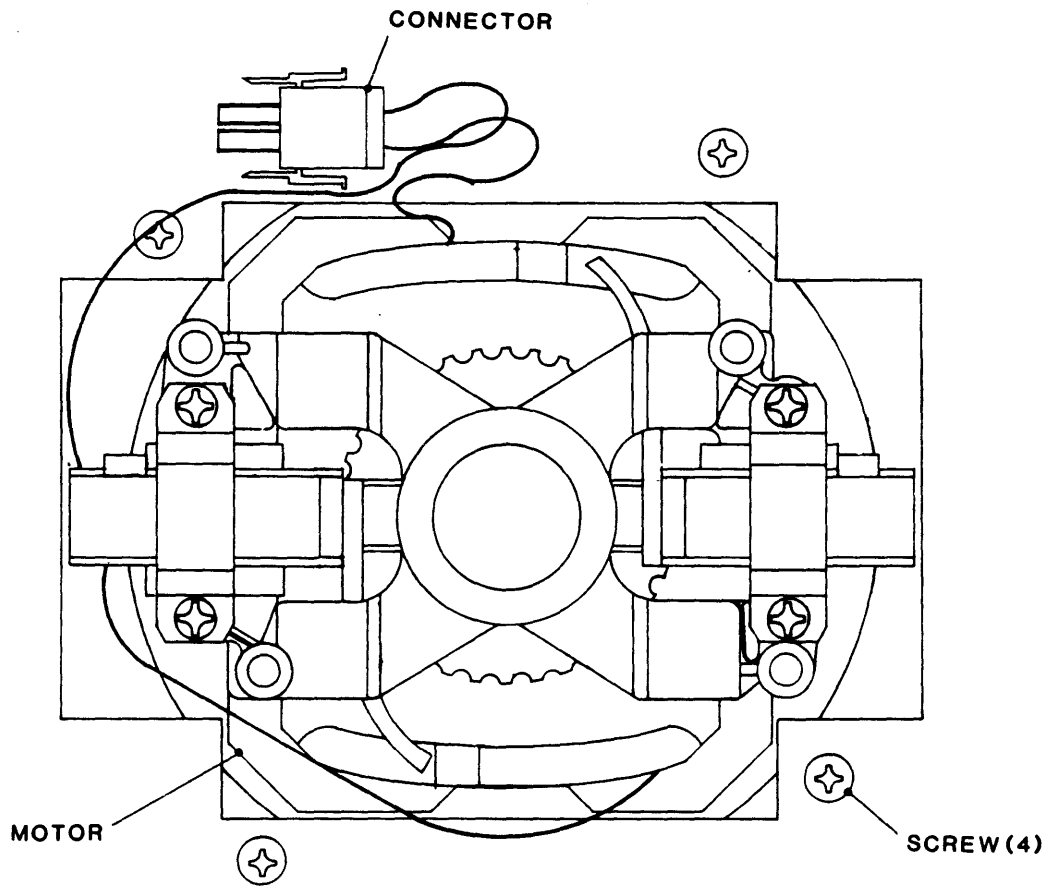

Figure 4-25 Vacuum Motor Assembly
4.3.28 VACUUM MOTOR ASSEMBLY (Figure 4-25)